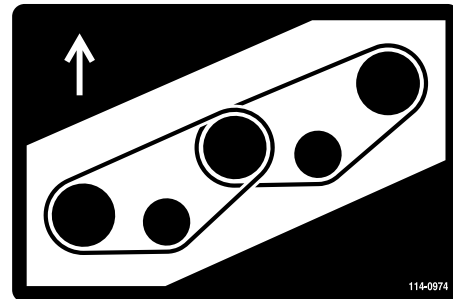
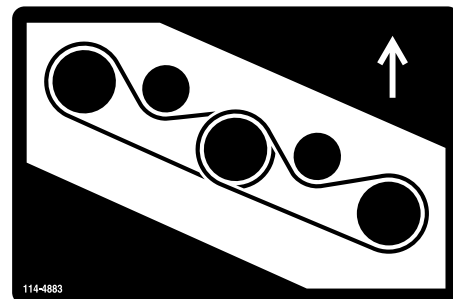

Figure 97
Figure 98
- Route the new belt around the spindle pulleys and idler-pulley assembly (Figure 97 and Figure 98).